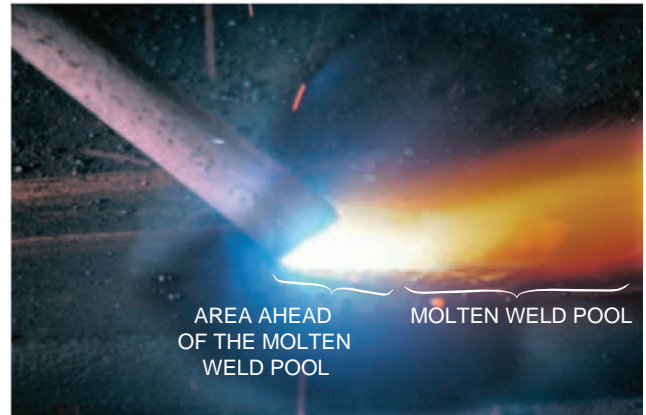

FIGURE 9-18 Metal being melted ahead of the molten weld pool helps to ensure good weld fusion. Courtesy of Larry Jeffus.
- Ensure that the arc melts the base metal completely, **Figure 9-18**.